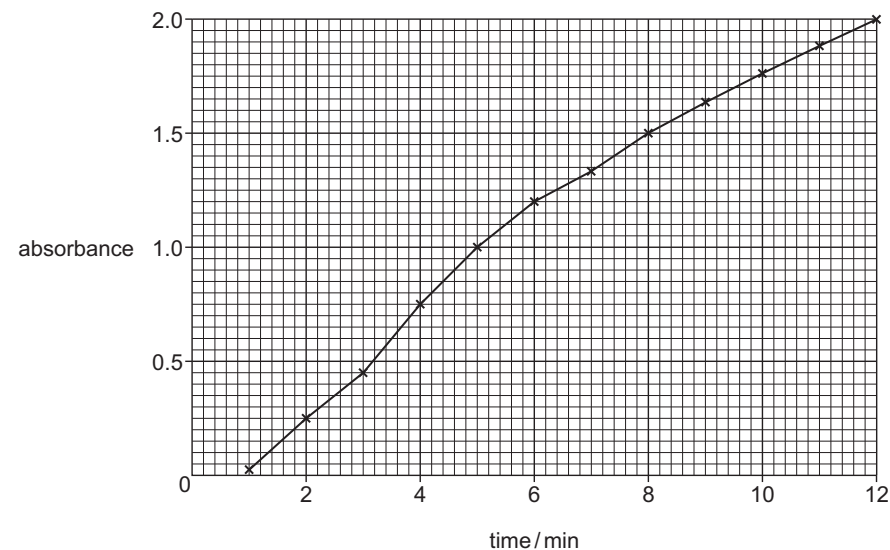

Fig. 3.2
The results are shown in Fig. 3.2.
- (ii) Explain the results shown in Fig. 3.2.